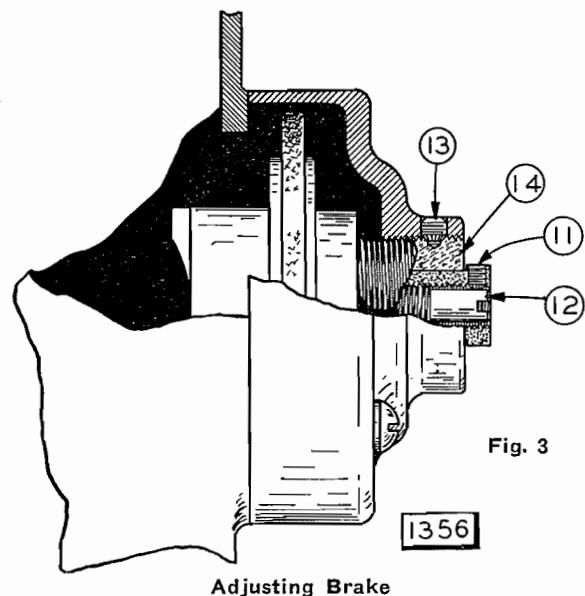

Fig. 3
The brake is an automatic device that brings the mixer to a stop when the clutch is released. On the V-1400 Mixer, the brake is adjustable. To increase the braking action so that the beater comes to rest more quickly, loosen set screw (11) fig. 3 and turn the slotted stud (12) counter-clockwise one full turn at a time, so that the set screw engages only the flat side of the stud. Turning the stud in a clockwise direction will ease the braking action. Tighten the set screw (11) when the adjustment is satisfactory. Be sure that you adjust the right parts. **DO NOT** disturb set screw (13) or sleeve (14); they are correctly set at the factory.